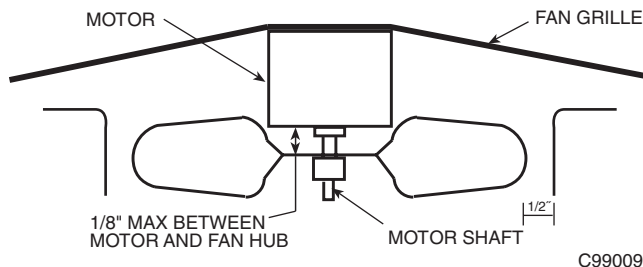

Fig. 15—Fan Blade Clearance
- c. Ensure fan hub is 1/8 in. maximum from motor housing (See Fig. 15).